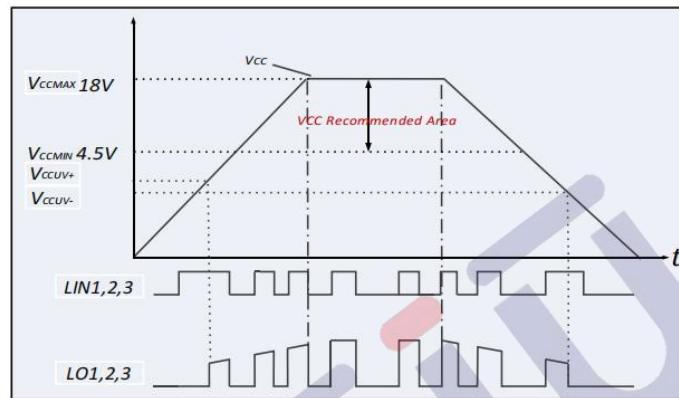

Figure. 1 VCC supply UVLO operating area
VCC is the low side supply and it provides power to both input logic and low side output power stage. The built-in under-voltage lockout circuit enables the device to operate at sufficient power when a typical VCC supply voltage higher than V_{CCUV+} is present, shown as Figure. 1. The U5315-6T(Q) shuts down all the gate driver outputs, when the VCC supply voltage is below $V_{CCUV-}V$, shown as Figure. 1. This prevents the external power devices against extremely low gate voltage levels during on-state which may result in excessive power dissipation.